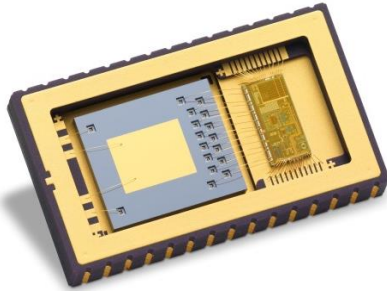

Figure 32 : Inner view of the package, showing the MEMS and IC
The sensing element (MEMS die), which is located on the left part of the Figure 32, is manufactured using Tronics' wafer-level packaging technology based on micro-machined thick single crystal silicon. The MEMS consists of two coupled sub-structures subjected to linear anti-phase vibrations. The structures are vacuumed at the wafer-level providing high Q-factor in the drive mode. The drive system is decoupled from the sense system in order to reduce feedback from sense motion to drive electrodes. The drive anti phase vibration is sustained by electrostatic comb drives. The sense anti phase vibration resulting from Coriolis forces is counter balanced by electrostatic forces. Differential detection and actuation are used for both drive and sense systems and for each sub-structure, keeping two identical structures for efficient common mode rejection.
The integrated circuit (IC), which is located on the right part of the Figure 32, is designed to interface the MEMS sensing element. It includes ultra-low noise capacitive to voltage converters (C2V) followed by high resolution voltage digitization (ADC) for both drive and sense paths. Excitation voltage required for capacitance sensing circuits is generated on the common electrode node. 1-bit force feedbacks (DAC) are used for both drive and sense system actuation.